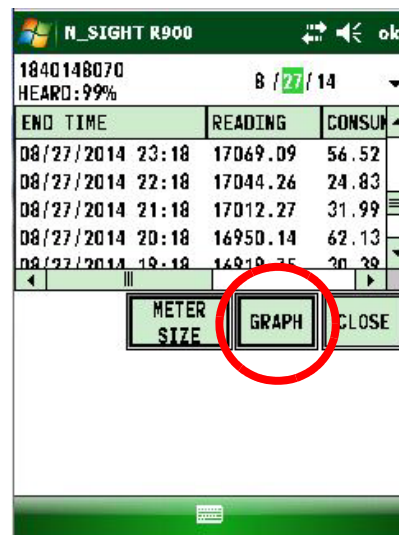
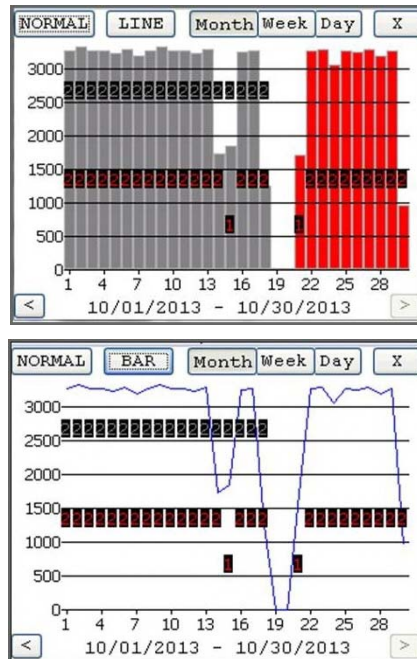

Figure 7.16 Graph Button
Figure 7.17 Examples of Data Logging Graphs
- 2 Click **GRAPH**. See Figure 7.16 to display the data in a graph. Examples of graphs are shown in Figure 7.17 on page 7-11.
Click to access graphing from the MIU Interval Reading screen. See Figure 7.16 on page 7-10.